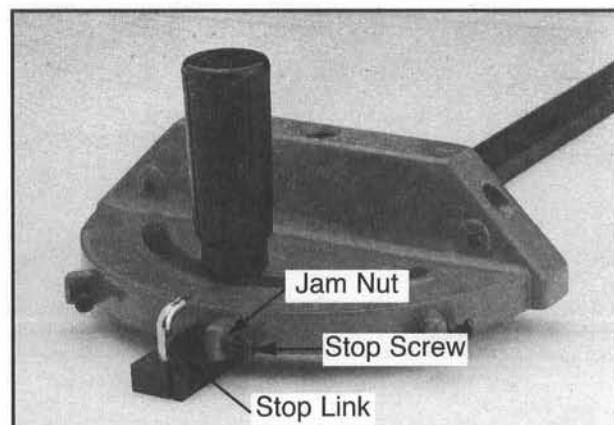

Figure 42.
3. With the stop link in the up position, loosen the jam nut and adjust the stop screw until it is seated against the stop link. **Figure 42.**